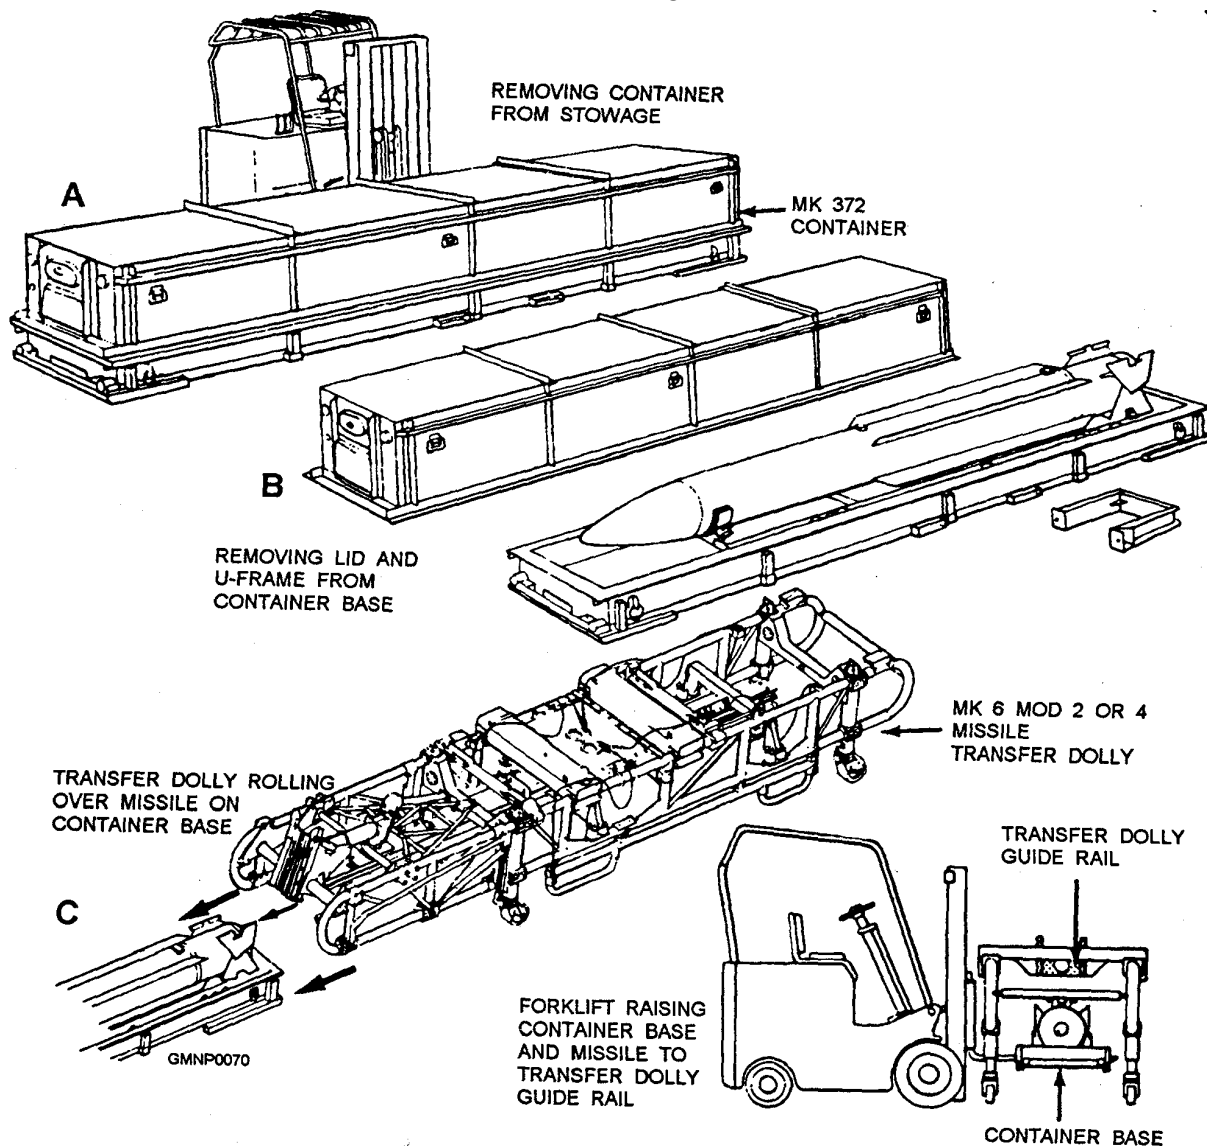
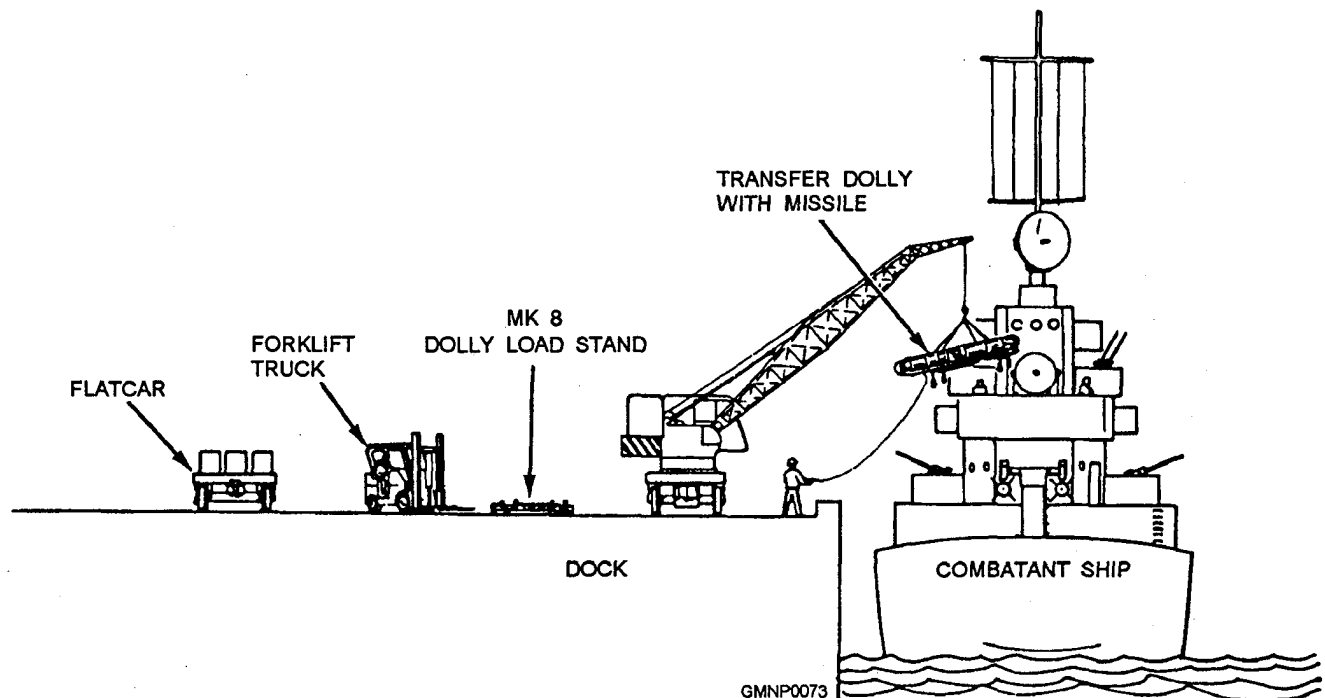

Figure 2-55.—A Standard MR missile handling sequence; container to dolly without roll.
Figure 2-58.—Dockside replenishment.
**TARTAR HANDLING-CONTAINER TO DOLLY.**— Figure 2-55 shows a typical Standard In this case, the missile is transferred directly from its container onto a dolly.
View C shows the dolly in position to be pushed over the load stand. (The upper ring halves are removed again.) This operation is the same as that described with view C of figure 2-55.
In view D, the forklift is raising the loading stand to engage the missile to the dolly. Again, the operation is similar to view D in figure 2-55.
A typical dockside (or pierside) replenishment operation is illustrated in figure 2-58. The major handling equipments and events have already been described. (See figs. 2-55 and 2-56, for example). Any changes or variations to the basic steps in figure 2-58 are minor. For instance, missiles may arrive on the pier in a boxcar instead of on a flatcar. Sometimes a flatbed truck is used,